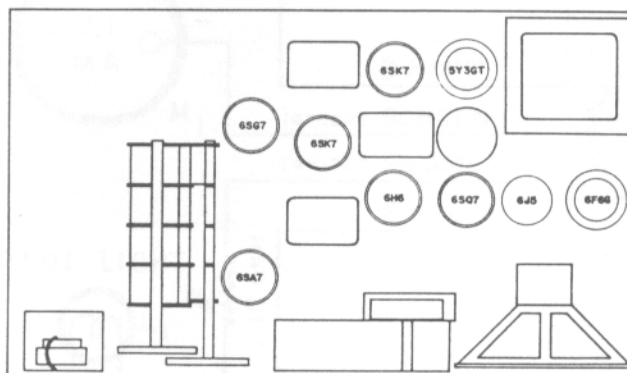

Figure 7. Radio Receiver Model S-40A, AU, view showing tube locations.
- (1) See that the tubes are securely seated in their sockets. Refer to Figure 7 for the proper location of each tube.
- (2) Check the pilot lamps located behind the dial escutcheons and see that they are securely in place.
- (3) Check all external connections. See that they are secure and make positive contact. Remember that an improvised installation gives improvised results.
REPLACING TUBES AND DIAL LAMPS.—When replacing tubes, check the tube type carefully and replace with the correct type. Refer to the top of the receiver chassis, Fig. 7, to determine the location of each tube. The receiver employs two dial lamps with bayonet type sockets to illuminate the two dial scales. Replace these with similar types, 6/8 volt, 250 ma., "blue bead" G.E. #44 or equivalent. The color code referred to is the color of the glass bead above the glass stem inside the envelope of the lamp.